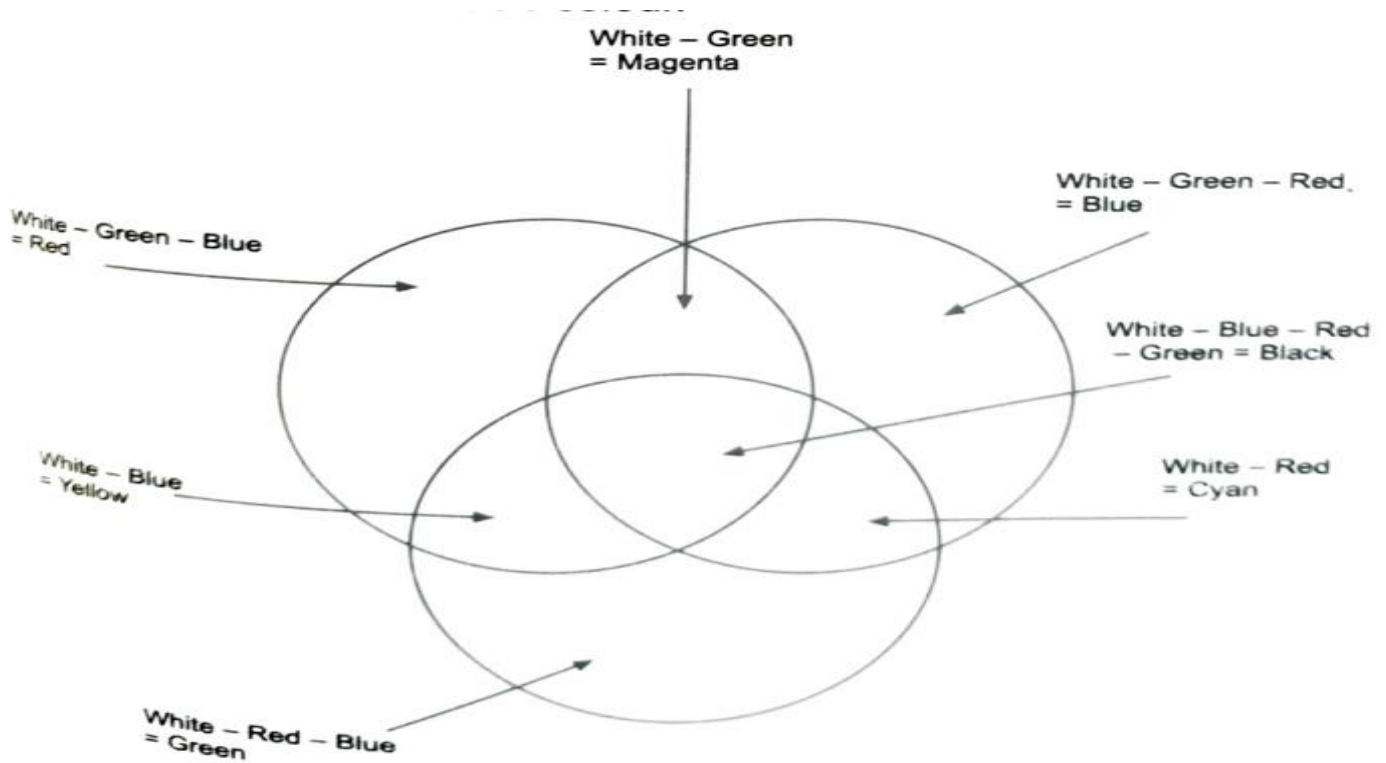

Fig 14.3: Subtractive Mixing of Colours
- Fig. 14.3 shows subtractive mixing of colours.